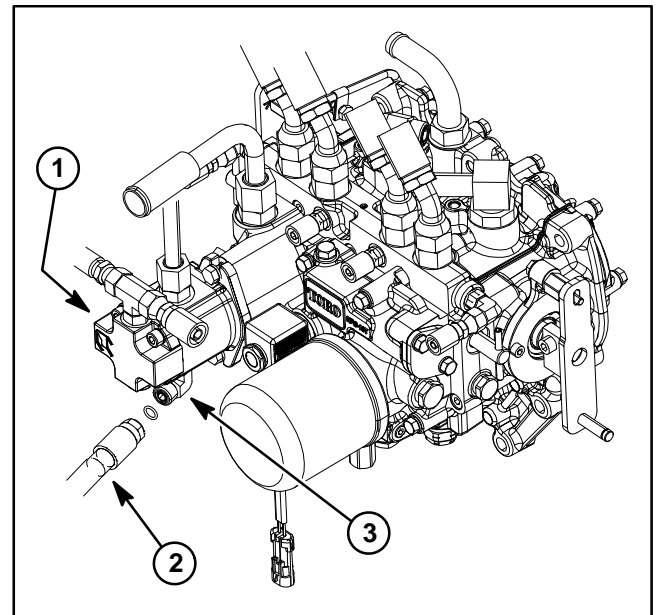

Figure 41
6. Disconnect hydraulic hose from lower fitting on gear pump (Fig. 41).